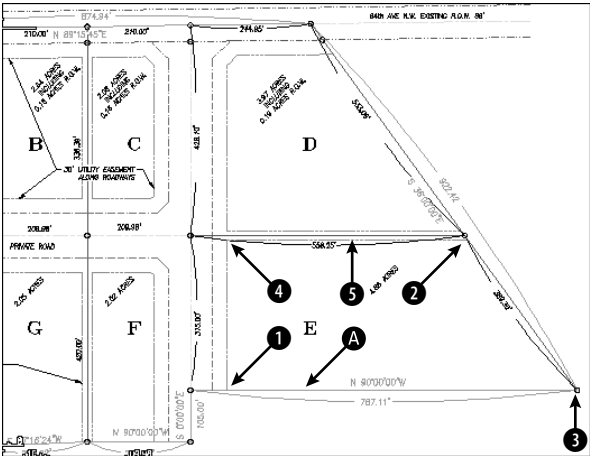
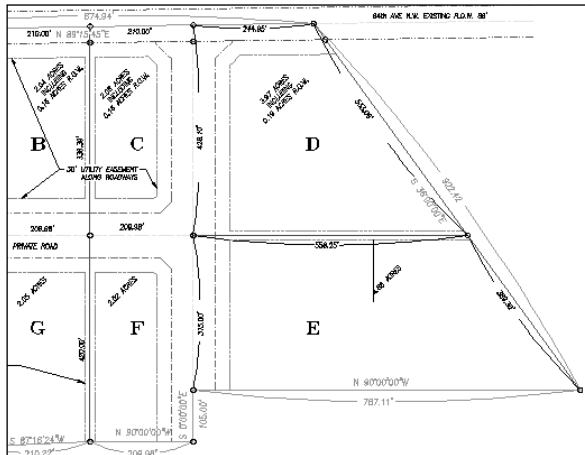

Figure 12-15: Parcels D and E in the civil engineering drawing.
Figure 12-16: Using CAL, you can calculate the intersection of two lines without drawing the lines.
3. If you did not do the previous exercise, use `ZOOM Window` to zoom in on the parcels labeled D and E, as shown in Figure 12-15.
5. In the Step-by-Step exercise on the DIVIDE command earlier in this chapter, you divided a line into three segments by placing two points on the line. You can use CAL to calculate the length of those segments. Type **cal** ↵. At the Expression: prompt, type **abs(end-end)/3** ↵. The command prompts you for the two endpoint snaps. Pick the two ends of the line at **A** in Figure 12-15. AutoCAD calculates 262.37.
6. Suppose that you want to draw a line starting from the intersection of two intersecting lines going from corner to diagonally opposite corner and ending perpendicular to the top line of the land parcel. Start the LINE command. At the Specify first point: prompt, type **'cal** ↵. At the Expression: prompt, type **ill(end,end,end)** ↵. The command prompts you for four endpoints. Pick the endpoints (in Figure 12-15) at **1** and **2** to define the first line, and then at **3** and **4** to define the second line. AutoCAD starts the line at the intersection of the two lines. At the Specify next point or [Undo]: prompt, choose the Perpendicular object snap and pick **5**. Figure 12-16 shows the result.